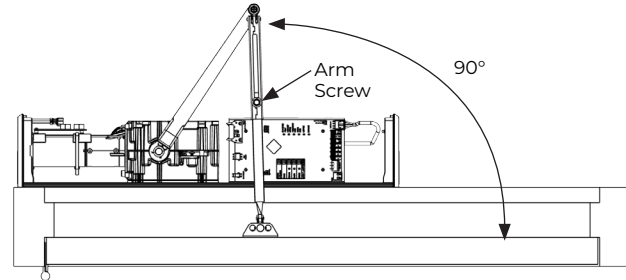

Figure 16 View: Looking up from floor
1. Using an adjustable wrench, secure the main arm to bottom pinion with the 1/4-20x 1/2" screw. (Figure 16)
2. Slide the main arm tube onto the forearm rod. (Figure 16)